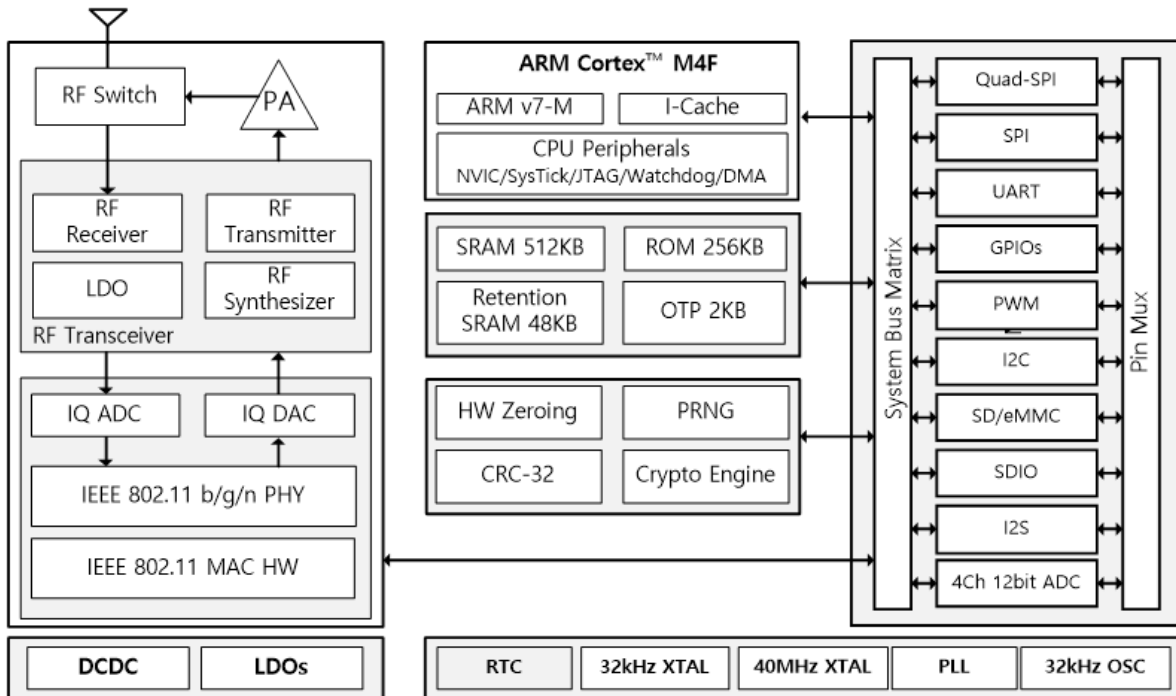

Figure 2: Hardware Block Diagram
Figure 2 shows the DA16200 hardware (HW) block diagram.